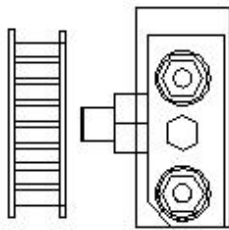

Fig : 3
- The idler pulley assembly is to be re-fitted to the R/H side of the operator, but needs to be reversed. The pulley wheel should be removed from its shaft after removing the retaining circlip (see fig 3).